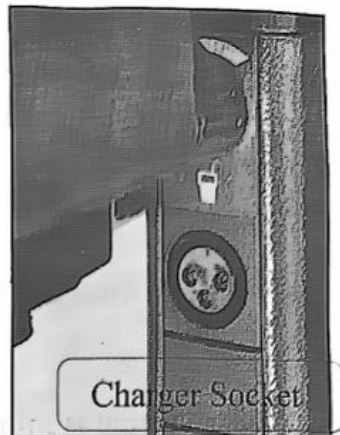

FIG. 22
5. Plug the charger power cord into a standard wall outlet. (FIG. 22)